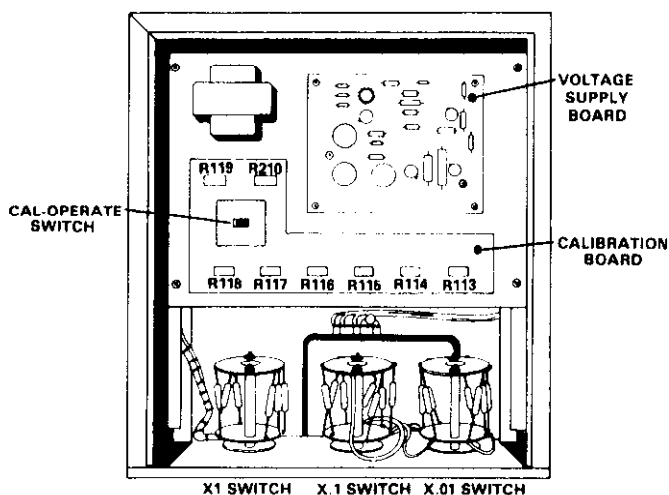

Figure 4-1. Top Chassis View
3. Set the CAL-OPERATE (Figure 4-1) in the CAL position. In this position, the low side of the range resistor is connected to chassis ground while the low side of the OUTPUT jack is connected as a guard between the high side of the output and ground.
1. Connect the Model 179A DMM across the Kelvin-Varley voltage divider. Connect the HI lead to the grey-white wire on the X.01 switch, and connect the LO lead to the black-blue wire connection on the X1 switch (See Figure 4-1).
4. Adjust R210 (Figure 4-1) for a reading of 10.000 ± 0.005V on the meter.
1. Set the Model 261 CAL-OPERATE switch to OPERATE. Connect the Model 261 to the proper line source. Connect the Model 179A Digital Multimeter across the Kelvin-Varley divider. Connect the HI lead to the grey-white wire on the X.01 switch, S103, and the LO lead to the black-blue wire on the X1 switch, S105 (Figure 4-1).
3. Adjust the 10^{-5} CAL potentiometer, R210 (Figure 4-1), for $10.012V \pm 5mV$ when read on the Model 179. Setting the voltage 12mV high compensates for any loading errors on the $10^{-5}A$ range.